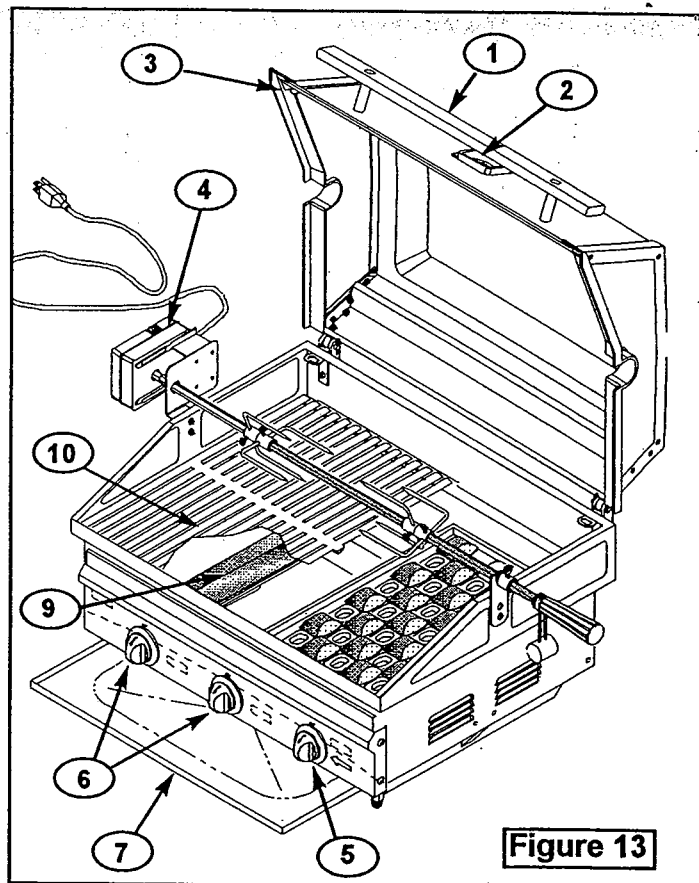

Figure 13
**Indirect Cooking:** Cook large cuts of meat to golden perfection with indirect heat. (Grill must be equipped with smoker hood.). By using indirect heat, your food doesn't come in direct contact with flame, instead, the heat from the lighted side of the grill gently circulates throughout the grill. Cooking food above the unlighted burners with indirect heat (Fig. 13).
For successful rotisseriesing, the meat should be centered and balanced as evenly as possible on the spit rod to avoid overworking the rotisserie motor. Center meat on spit, then secure in place with the fork-like skewers. Test the loaded spit for proper balance by supporting both ends in your palms. Roll spit; if spit does not turn easily, the meat is not properly balanced and will need to be repositioned. If your food isn't balanced, use the Counterbalance to correct this condition to assure trouble-free rotisserie cooking by always maintaining the perfect balance, see Figure 13.